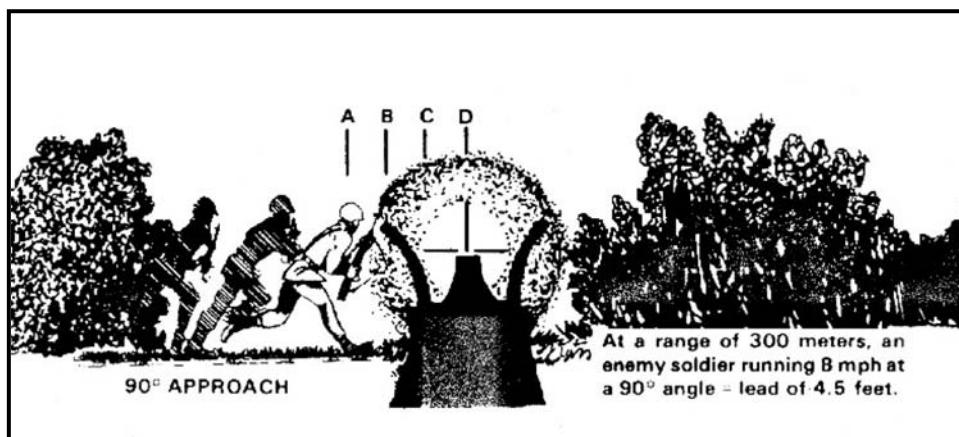

Figure 7-28. Lead requirement based on distance and approach angle.
a. **Lead Requirements.** To effectively engage moving targets on the battlefield, soldiers must understand lead requirements. Figure 7-28 shows the amount of lead required to hit a 300-meter target moving 8 miles per hour at a 90-degree angle. Aiming directly at the target would result in missing it. When an enemy soldier is running 8 miles per hour, 90